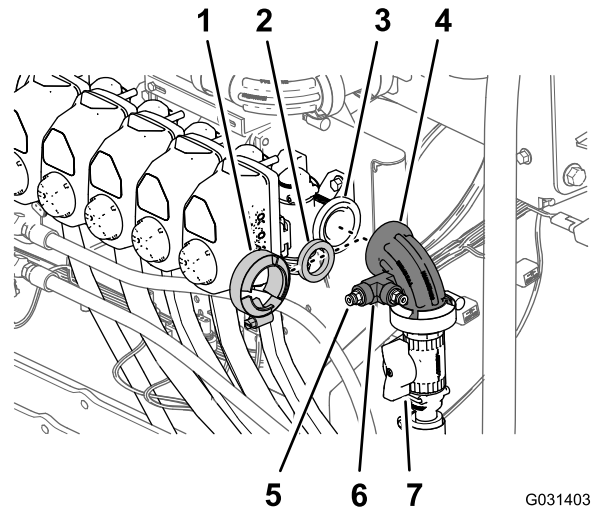

Figure 185
- Align the gasket and 90° elbow for the hose reel to the flange from nozzle valve 10 (Figure 185).
- Secure the elbow and gasket to the valve with a flange clamp and tighten the clamp by hand (Figure 185).
- Apply a coat of PTFE thread sealant to the threads of the tube coupler and install the tube couple into the T-fitting as shown in Figure 185.